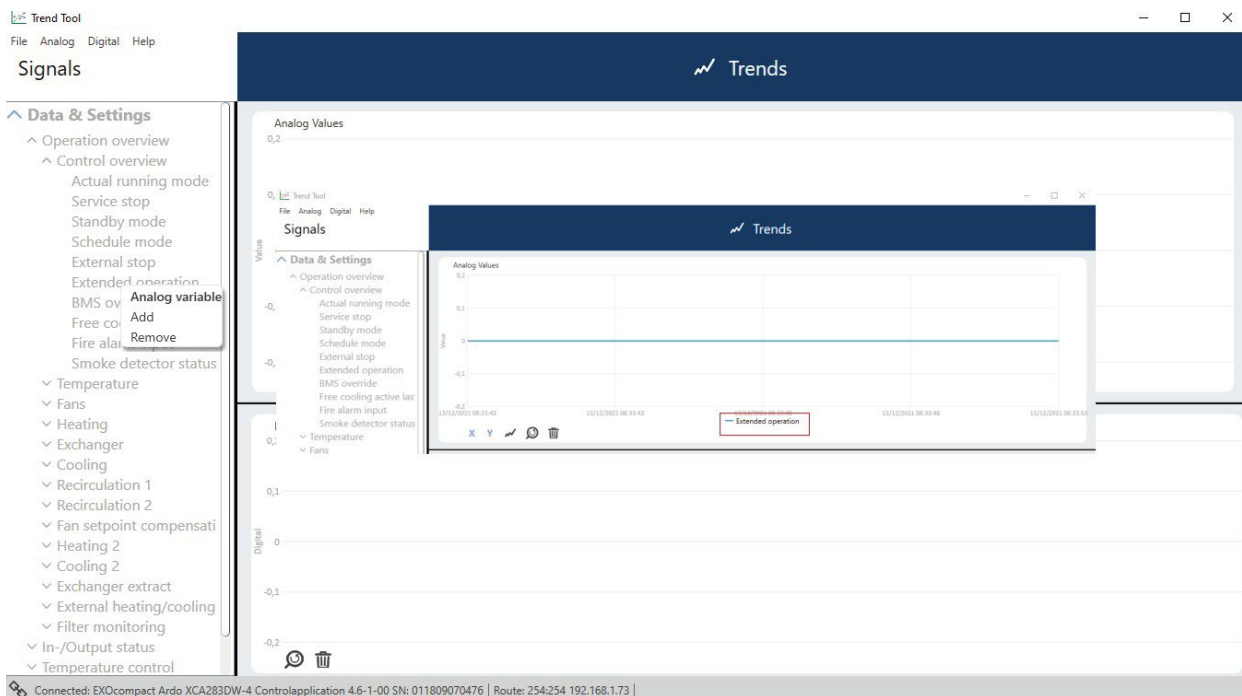

Figure 6-5 Add a variable to trend chart
2. Browse and select variable to add. In the example in Figure 6-5 Add a variable to trend chart it is the analog variable Extended operation.
4. The variable will then be shown at the bottom of the chart as seen embedded in Figure 6-5 .